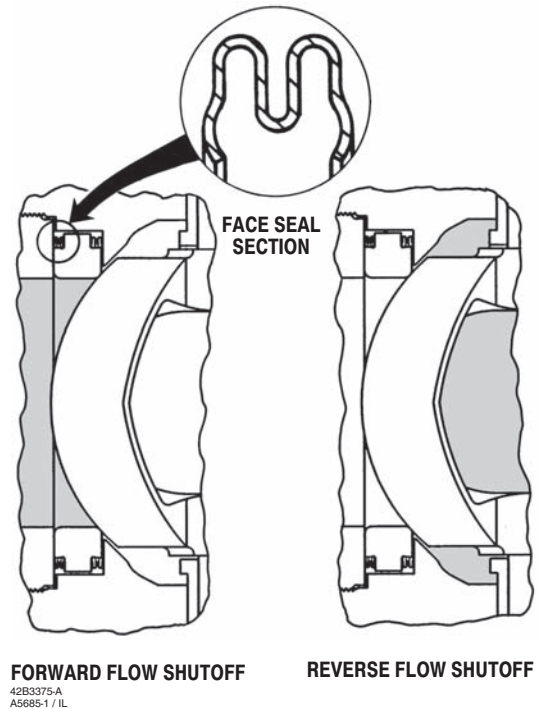

Figure 2. Detail of Seat Ring Design
The Fisher CV500 Cam Vee-Ball™ control valve combines the rangeability of the cammed-segmented V-notched ball, with the inherent ruggedness found in the V500 heavy duty bearings, seals and body. This combination provides a balance of erosion resistance and pressure control for gas and liquids. The unrestricted, straight-through flow design provides high capacity for gas, steam, liquids, or fibrous slurries. The flanged (figure 1) and flangeless valves feature streamlined flow passages, rugged metal trim components, and a self-centering seat ring (figures 2 and 3).
- Reliable Performance**—The seat ring design (figure 2) self-centers, self-laps, and dynamically aligns with V-notch ball, giving superior cycle life. Optional sealed metal bearings help prevent particle buildup and valve shaft seizure in severe applications.